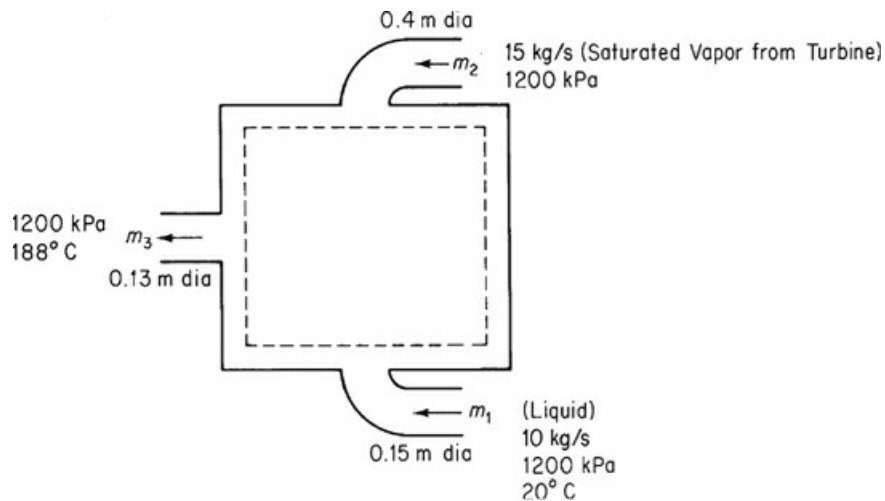

Figure P8.4.27
****8.4.27** Feed-water heaters are used to increase the efficiency of steam power plants. A particular heater is used to preheat 10 kg/s of boiler feed water from 20°C to 188°C at a pressure of 1200 kPa by mixing it with saturated steam bled from a turbine at 1200 kPa and 188°C , as shown in Figure P8.4.27. Although insulated, the heater loses heat at the rate of 50 J/g of exiting mixture. What fraction of the exit stream is steam?